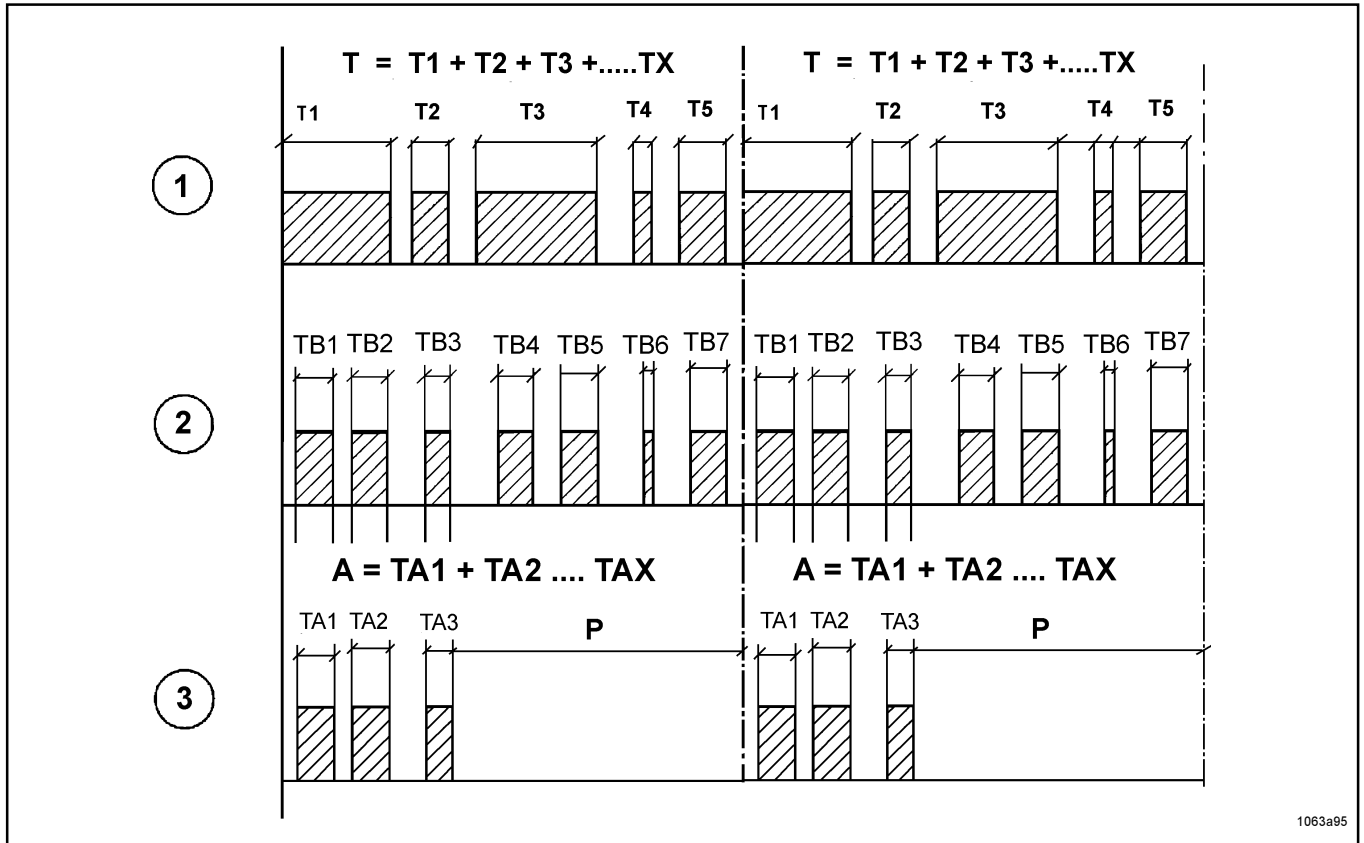

Fig. 16 -Time sequence diagram
- The time of availability T (fig. 16) starts with the operating time (A), i.e. the QLS 321 is prepared to turn individual braking operations (TB1...TBX) into lubrication cycles (TA1...TAX, operating times) until the preset operating time (A) elapses.
- The layout of the control unit is such that during the preset time of availability (T, pure travelling time) one operating time (A) elapses.
- Once the time of availability (T) has elapsed, a new cycle begins.
- The time of availability (T) can be modified and is adjustable on the key pad from 1, 2, 3...up to 16 hours (increment 1 hour).
- The operating time (TA1, fig. 16) starts with the first braking actuation (TB1 = TA1, etc.).